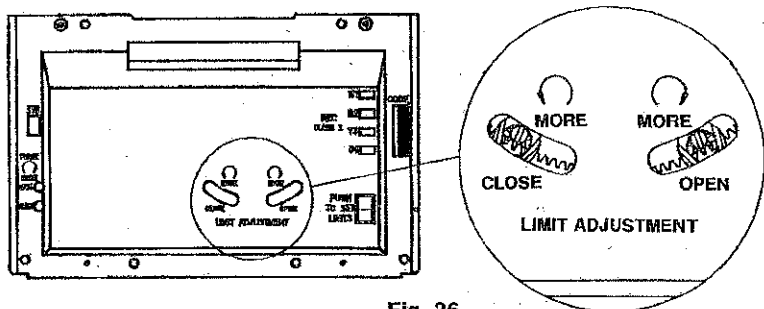

Fig. 26
1. Adjusting the OPEN limit switch (Fig. 26).